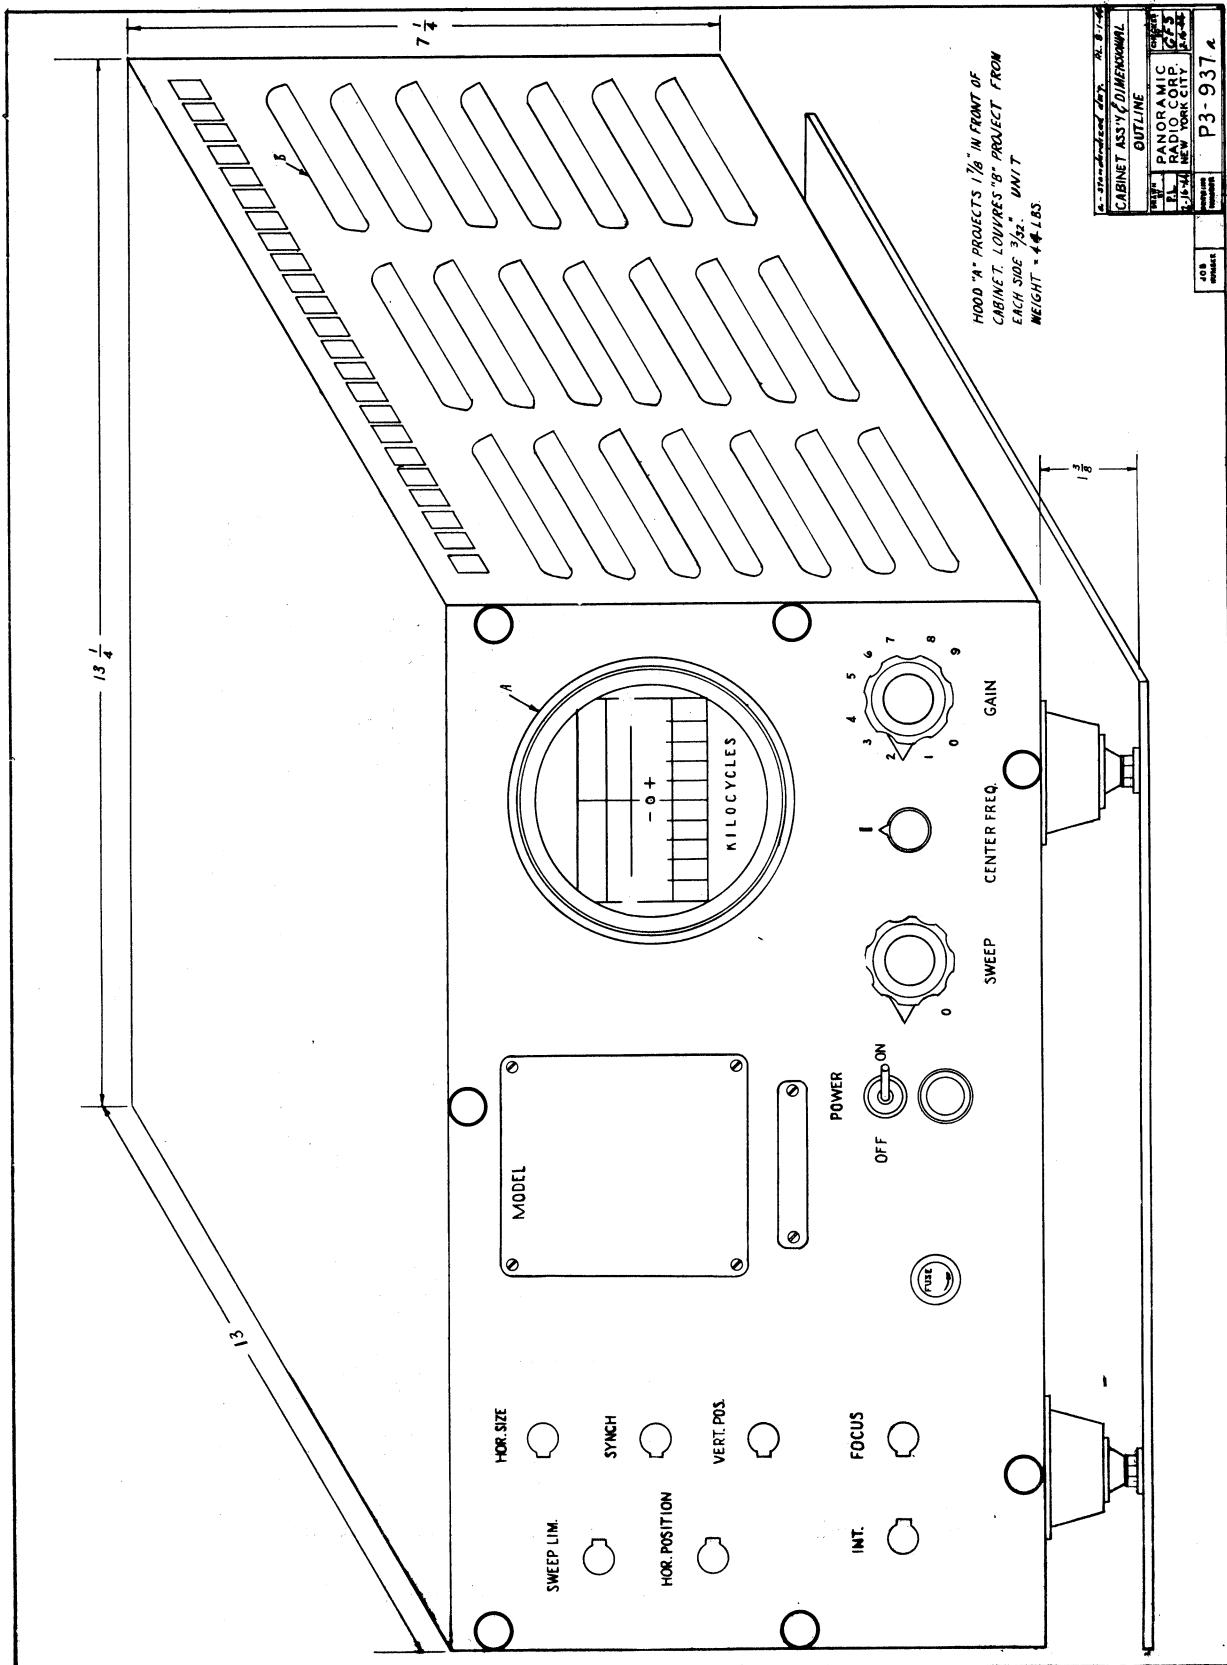

Figure 2-1. - Panoramic Adapters, Navy Models RBW-2, RCX, RBW-2M, RCX-I, RBU-1, and RBV-1, Cabinet Assembly and Dimensional Outline.
b. See Figs. 2-1 and 2-2 for installation dimensions and weight.
(1) Make sure that the RECEIVER has an intermediate frequency which corresponds to the input frequency of the adaptor.
(2) Disconnect both the adaptor and the receiver from the power line.
(3) Panoramic Adaptors, Navy Models RCX, RCX-1, RBW-2, and RBW-2M are connected to the companion receiver by means of a shielded single co-axial cable. One end of the cable should have a male plug, Navy Type Number 49195, which is fitted into the input female connector (J101) at the rear of the adaptor chassis. If the companion receiver is provided with a connector for operation with the Panoramic Adaptor, the other end of the co-axial cable should be fitted with a suitable plug which is to be inserted into the connector of the receiver. A receiver, which is to be operated with either Navy Model RCX or Navy Model RCX-1, should have a 25,000 ohm resistor between the plate of the first detector and the above mentioned connector. On the other hand, a receiver, which is to be operated with Navy Models RBW-2 and RBW-2M, should have a 50,000 ohm resistor between the plate of the first detector and the connector.